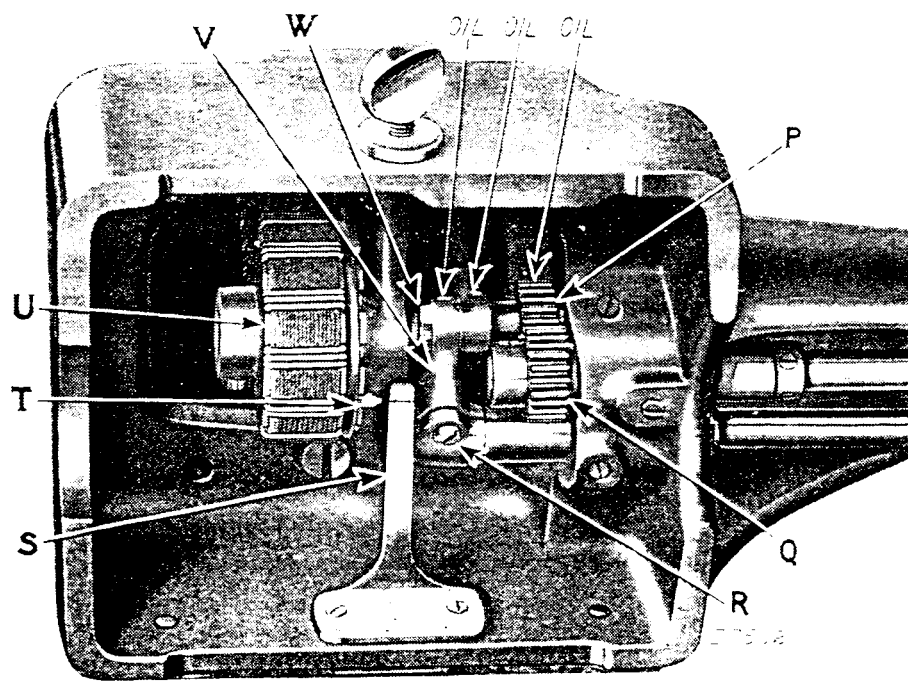

Fig. 17. Underside of Machine, Showing Arrows on Plate and Lower Pulley for Determining Correct Position of Hook Driving Shaft when Replacing Belt
If the feed dog strikes the throat plate, tip the machine back and loosen the pinch screw (R, Fig. 17) of the feed driving rock shaft crank at the end of the rock shaft, then set the feed dog so that it will not strike when the longest stitch is made, and retighten the pinch screw (R).
Slide the arm shaft connection belt off the lower pulley (U, Fig. 17). Remove the feed regulating spindle head and balance
Owing to the fact that the sewing hook makes two revolutions to one revolution of the arm shaft, and that the feed lifting eccentric is on the hook shaft, it is possible to have the sewing hook correctly timed without having the feed eccentric correctly timed. To overcome this, the plate (S, Fig. 17) is attached to the underside of the bed of the machine. This plate is marked with an arrow. When replacing the belt, replace the arm shaft bushing and securely fasten it in position by the screw at the back of the machine, replace the feed regulating spindle head and the balance wheel and place the belt on the upper pulley, then turn the
balance wheel over toward you until the thread take-up lever is at its highest point. Then turn the hook driving shaft with the fingers until the pointer (T, Fig. 17) on the lower pulley (U) is directly in line with the arrow on the plate (S). Now, without disturbing either the arm shaft or the hook driving shaft, slip the belt over the lower pulley (U). The feed will then be correctly timed with the needle bar.
To remove the countershaft gear (P, Fig. 17), loosen its two set screws, also loosen the two screws in the belt pulley (U, Fig. 17), then push the countershaft to the left to remove the gear (P) from the shaft.
To remove the hook driving gear (Q, Fig. 17), remove the timing plate (S, Fig. 17), remove the feed driving connection nut and stud (W, Fig. 17), loosen the pinch screw (R, Fig. 17) and remove the feed driving connection (V, Fig. 17). Then loosen the two set screws in the hook driving gear (Q) and remove the gear.